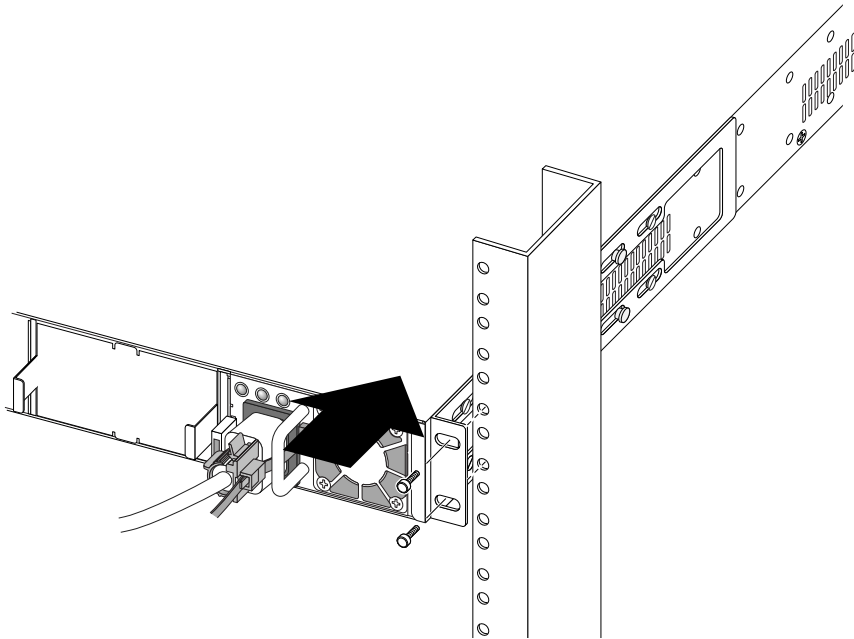

Figure 314: Sliding the EPS-C2 into the Rack and Securing it
4. Slide the EPS-C2 into the rack and secure it using appropriate rack-mount screws. See Figure 314.